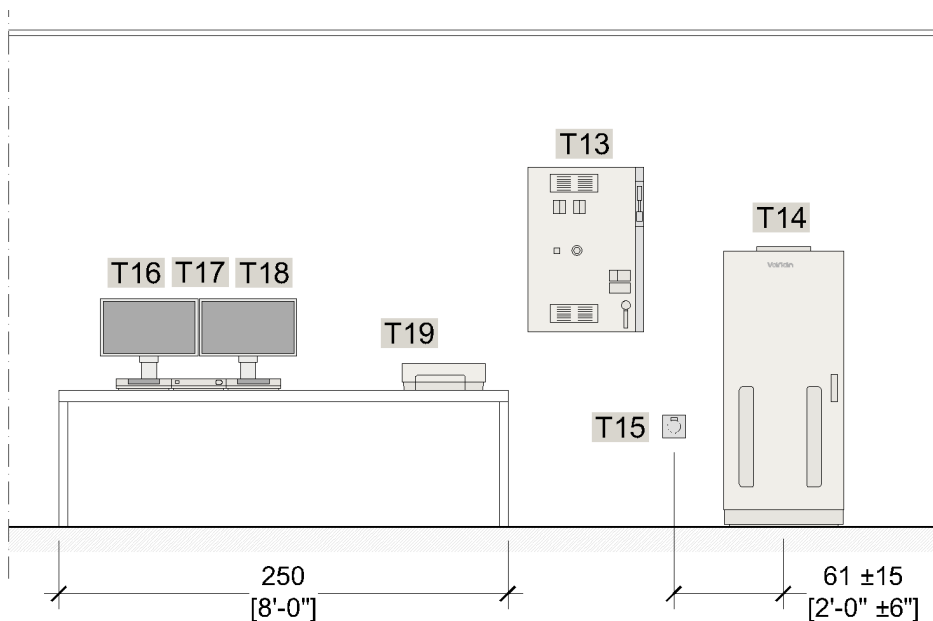

Figure 3-8 Generic Control Console Layout
Figure 3-8 is a generic layout, component positioning may vary per site-specific conditions, consult with the Customer on the desired layout, and if any additional space is required.
- (1) IEC 60309 outlet, blue, 30-32A connector.
- 1-phase, N, and G see Figure 3-8 and Figure 3-9.
- (1) Standard power outlet for the Printer (**T19**).